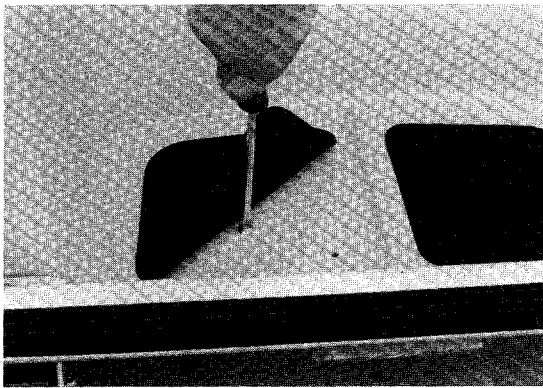

Figure 14-22
2. Remove two bolts (2) and locknuts (3) located under mats in bagwell bottom (Figure 14-22).